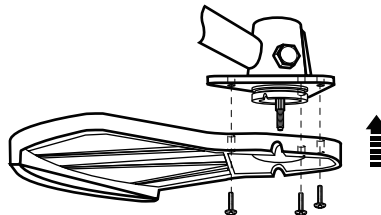

Fig. 4c
e). Place the cutting guard (B3) onto the support and fix it with the screws by using the Hex key 4 mm (F3). Pay attention to the alignment of the cutting guard. (See Fig. 4c)